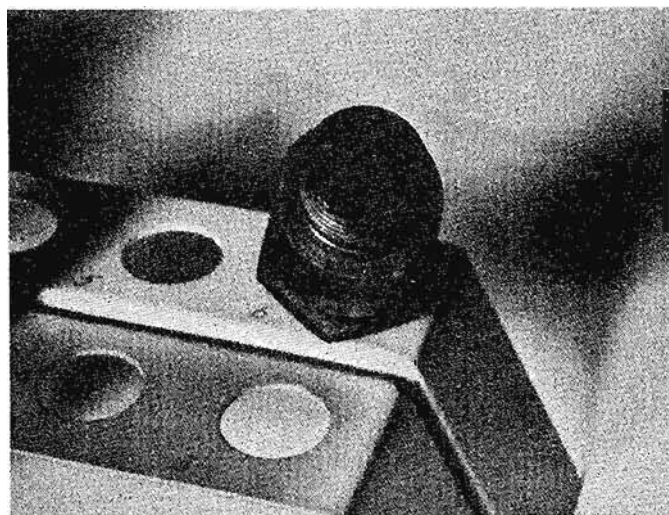

Fig. 40 Petrol fouling indicated by a dry fluffy black deposit on the Insulator.
- (c) Next, look for petrol fouling indicated by a dry fluffy, black deposit (Fig. 40). This is caused by many things-- faulty carburation, ignition system, defect in battery, distribution coil or condenser, broken or worn-out cable.